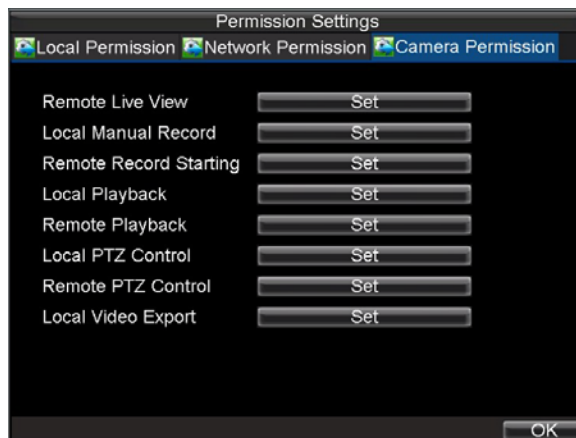

Figure 8. Camera Permission Settings Menu
8. Click on the **Channel Permission** tab to configure channel permission, as shown in Figure 8. The channel settings include: